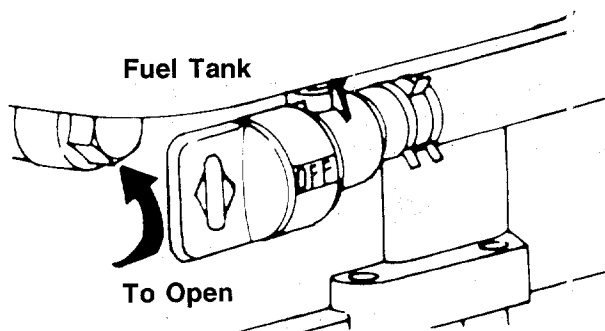

FIGURE 16.
2. Open fuel shut-off valve. See figure 16.